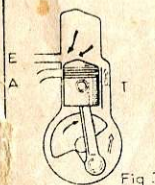
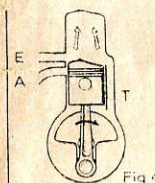

Fig. 3
Fig. 4
- C. The descending piston uncovers the exhaust port allowing a free escape of the burnt gases, and at the same time uncovers the transfer port, see Fig. 3, allowing the mixture, which is being compressed in the crankcase, to transfer into the cylinder, when, by the action of the deflector on the piston head, the incoming gases assist in exhaust scavenging by driving the spent gases before them, thus completing the cycle of operation, see Fig. 4.